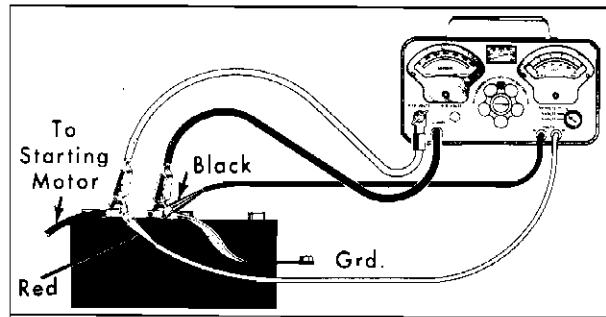

Fig. 11-3 Battery Capacity Test
4. Connect positive leads of Ammeter-Voltmeter tester to positive terminal of battery, and negative leads of tester to negative terminal of battery, Fig. 11-3.